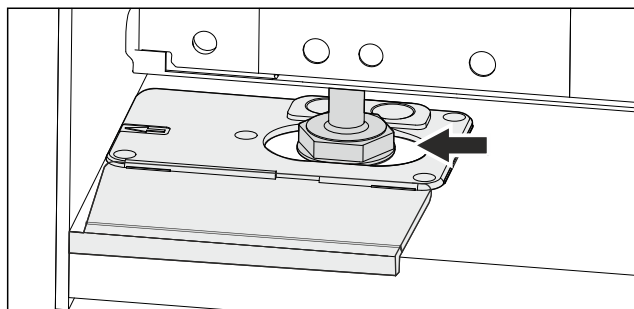

Fig. 47
- Align the appliance with the adjustable feet. Fig. 47 ()